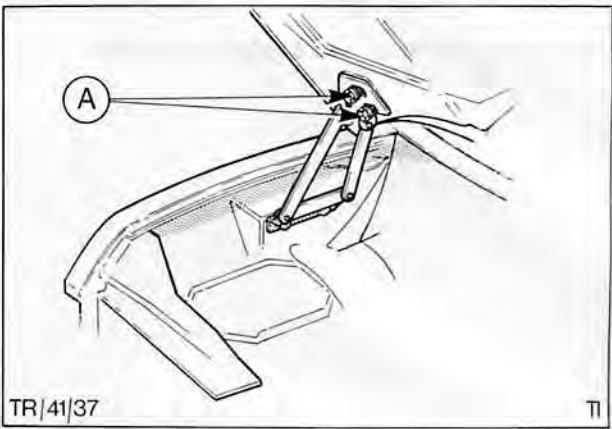

Fig. 1. Hood hinge bolts
1. Slacken bolts securing underside of hood to hinges, Fig. 1.